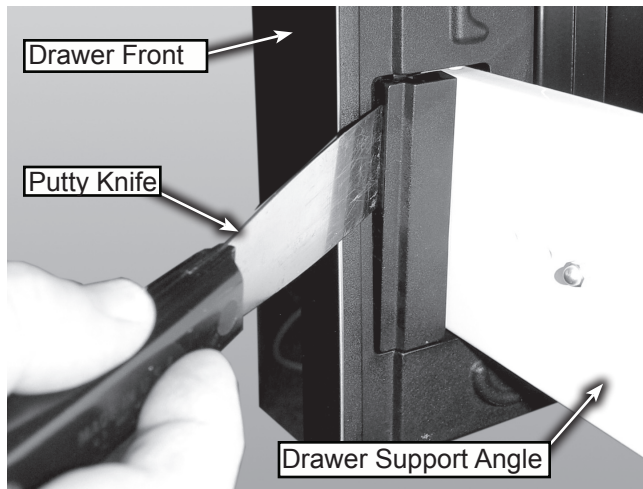

Figure 1
3. Using a putty knife gently pry on the side of the cover until it snaps out, see figure 1.